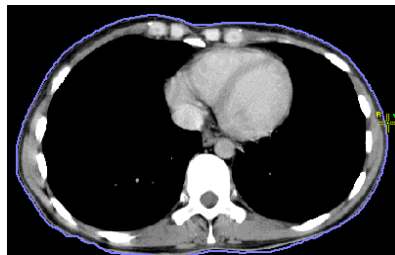

Figure 273 – Defining the right point of the bolus
- The cursor is now marked as **R**. Click the rightmost point of the bolus, as described above for the leftmost point (see Figure 273).